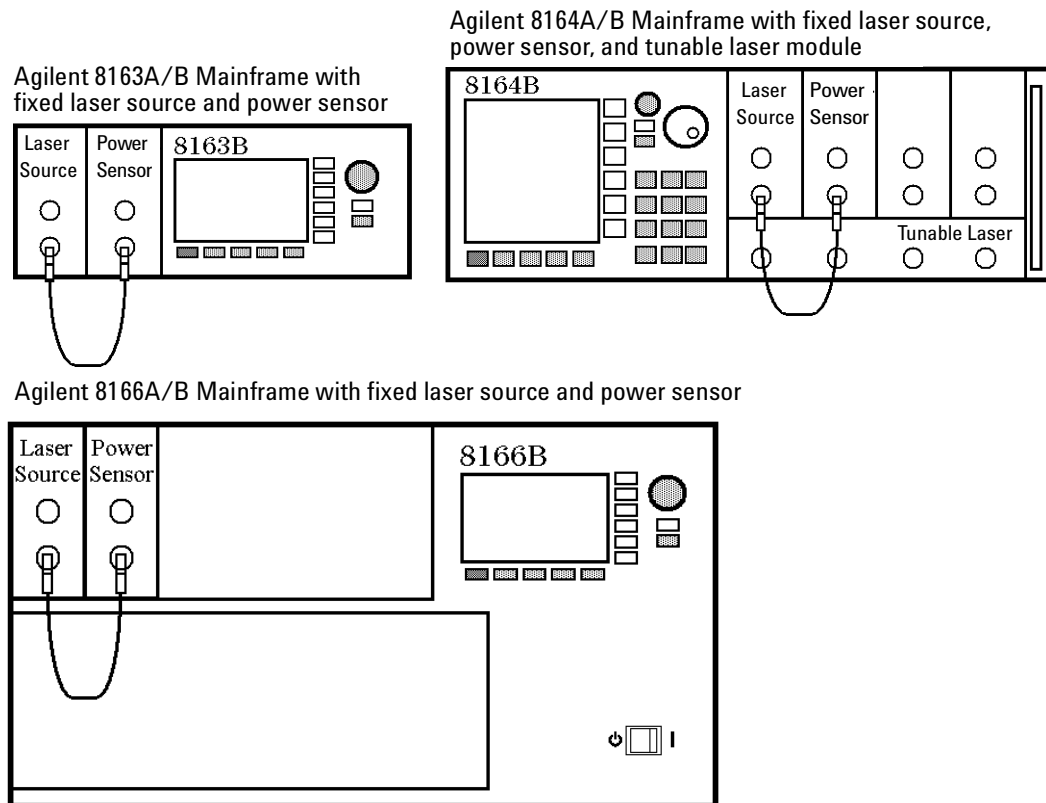

Figure 201 Mainframe Setup
- 1 Setup the test equipment as shown in Figure 201 :
- 1** Setup the test equipment as shown in Figure 201 :